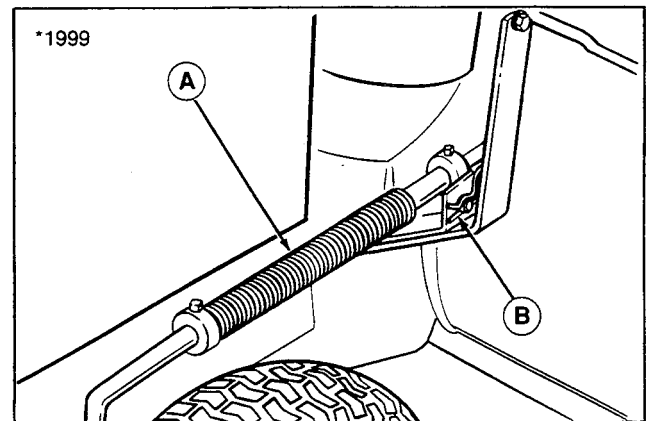

Figure 4. Install Lift Rod
6. Place the lift lever in the fully forward position. Install the lift rod to the lever and secure with spring clip. Install the lift rod to the snowthrower bracket as shown in figure 4. Secure with spring clip. Raise the snowthrower to the transport position.
- b. Always remove chain (C, figure 4) from spring-assist bracket (A) to prevent interference with front steering components. Reinstall washers on clevis pin and secure with safety clip.